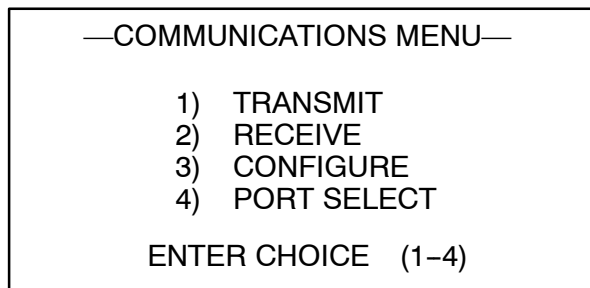

Figure 2C-4. Communications Menu
17. Press 9 and ENTER to enter the communications mode. The menu shown in **Figure 2C-4** is displayed.
1. Set system power to ON. On power-up, the camera goes through a four minute warm-up period (display indicates WT4, WT3, WT2, WT1). When the sequence is completed the display indicates #0 and generates a tone. If desired, the warm-up period can be overridden by holding down EXP (Expose) for approximately one second. See Figure 2C-5 for front panel controls.